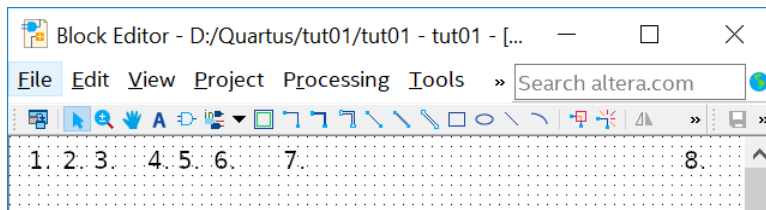

Figure 4: Top part of schematic editor window
- Figure 4 shows the top part of the schematic editor, which has three ways to enter commands: (1) Pull-down menus are accessed by a key-word such as File, Edit, View, and so on. (2) Icons are short-cuts to commonly used commands. Hovering the cursor over an icons cause a descriptive bubble to appear. (3) Hot-keys are control-key combinations that also serve as short-cuts to commonly used commands. Hot-keys are listed in the pull-down menus. You can make use of hot-keys, as you become more familiar with Quartus.
Some of the icons shown in Figure 4 are numbered. The following outlines each such icon. As you read note that the editor has what's called a mode, which starts in the selection mode. Some commands cause what's called the mode to change, so that the shape and behavior of the cursor changes.
- At this moment you have a blank file. For your convenience you can detach the text editor from the Quartus application window and later reattach. Figure 4 from the Quartus application window, icon 1. is the Detach Window icon, but in the detached window, icon .1 causes the window to be reattached to the Quartus application window.